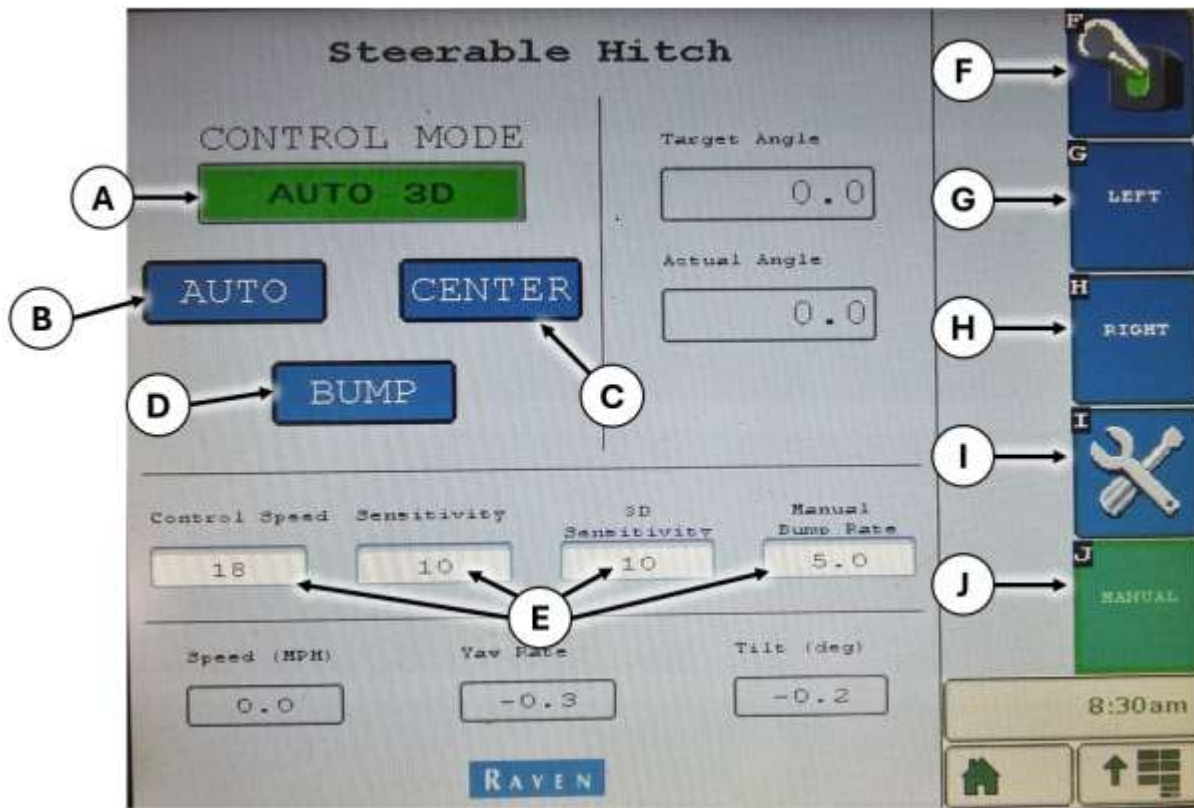

Figure 2: Home screen
4. In the Setup screen (button 1, Figure 2: Home screen), press “Set Center Position” once to save the centered position. The “Set Center Position” angle shown should be updated to the angle that the Hitch is currently in.